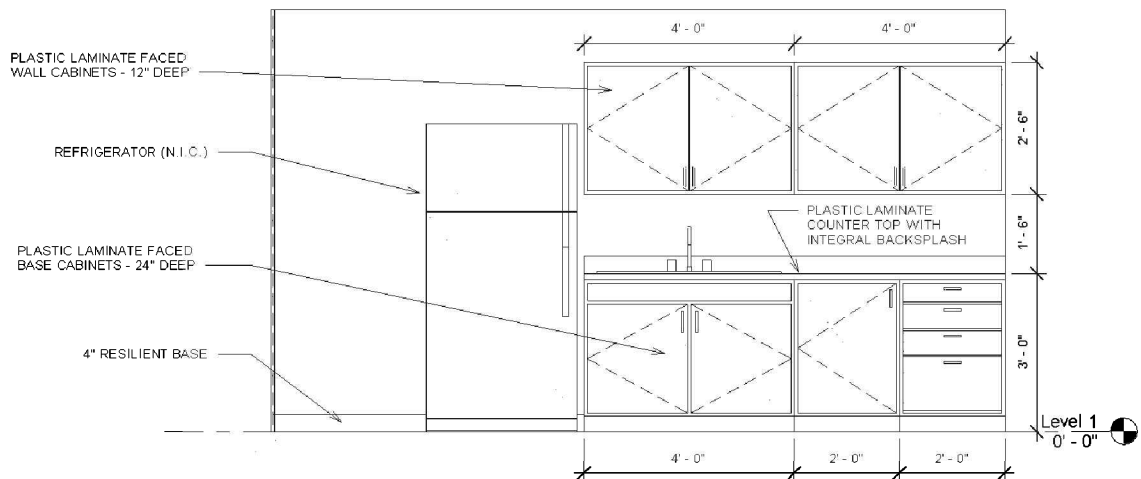

FIGURE 11-2.9 Interior elevation of Break Room with notes and dimensions added
23. Add the notes and dimensions per Figure 11-2.9: